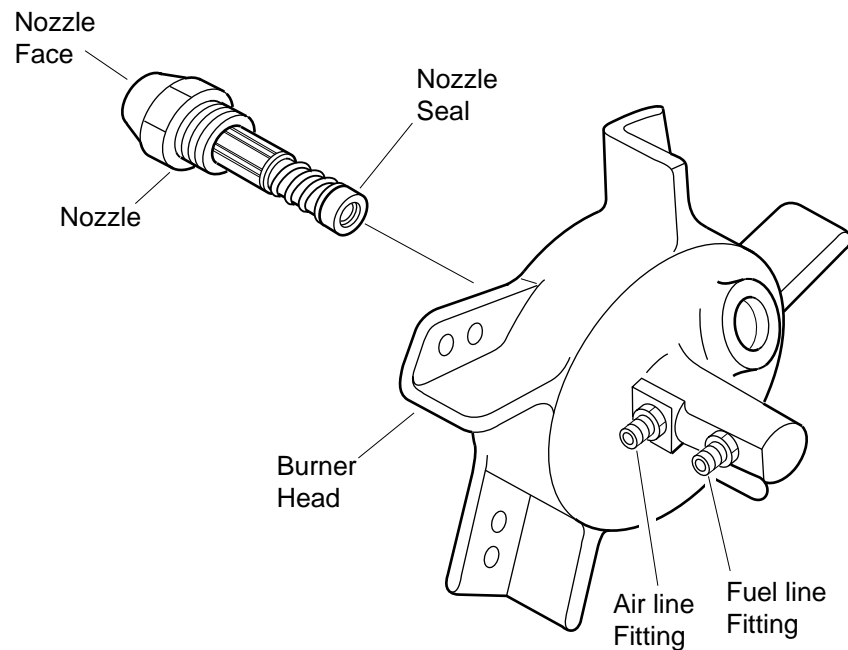

Figure 15 - Removing Nozzle, 100,000 BTU/Hr Model
8. Carefully remove nozzle from burner head using 5/8" socket wrench (see Figure 15).